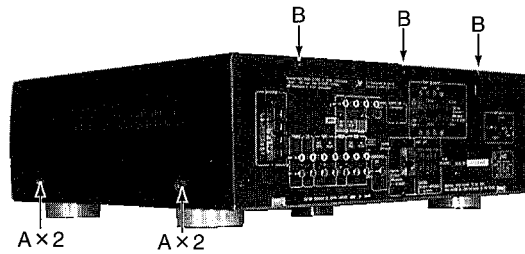

Fig.1
1. Remove 4 screws A on both sides of the top cover and 3 screws B on the rear side. (Fig.1)